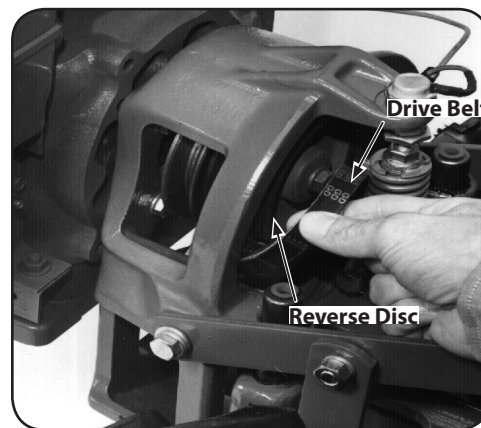

Figure 5-3
5. Lift the top half of the belt up and over the upper pulley and the rubber reverse disc, moving it in front of the reverse disc. See Figure 5-3.